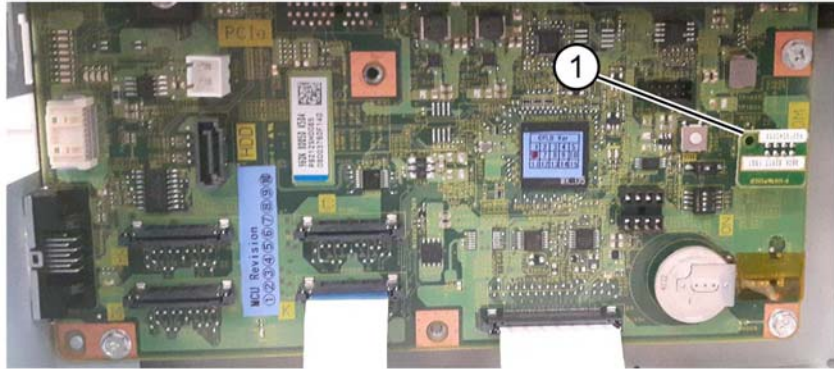

Figure 13 SEEPROM
- a. Remove the SEEPROM (1) from the old ESS PWB, then install it onto the new ESS PWB, Figure 13.